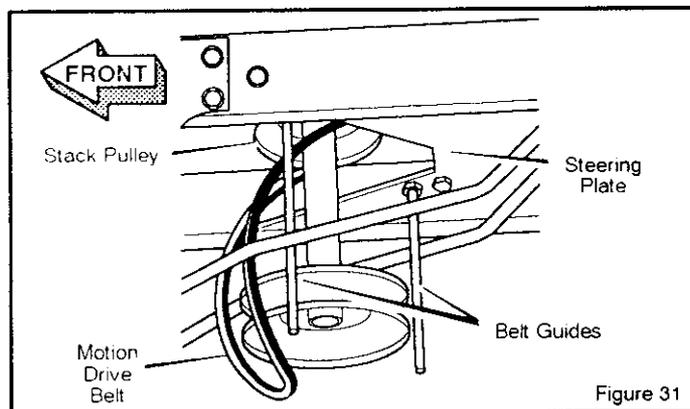

Figure 31
8. To remove the **motion drive belt** from the **stack pulley**, pull the front end of the belt under the **stack pulley** and then back between the stack pulley and the **steering plate** (Figure 31).
1. Slide the **motion drive belt** between the **stack pulley** and the **belt guides** (Figure 31). Install the **motion drive belt** on the top pulley of the **stack pulley**. Make sure the "V" side of the belt is against the pulley.